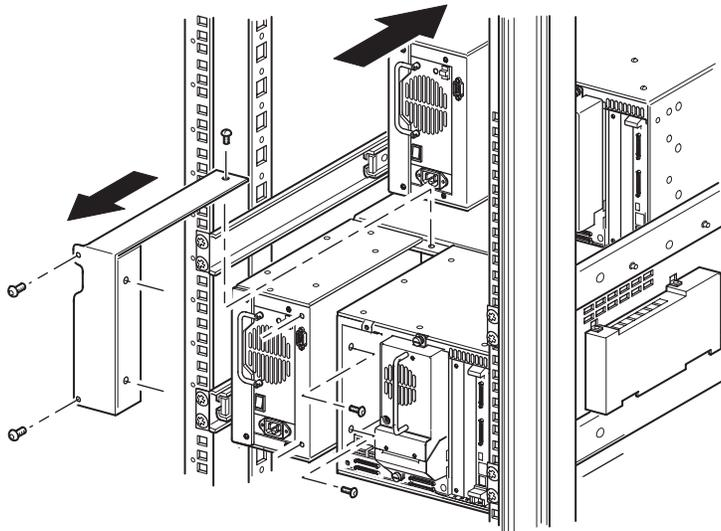

Figure 2–5: Removing the PTM cover plate
- c. Using a #2 Phillips screwdriver, remove the screws that secure the PTM cover plate to the rear of each library chassis (see Figure 2–5).
4. Install the PTM base unit (see Figure 2–6).